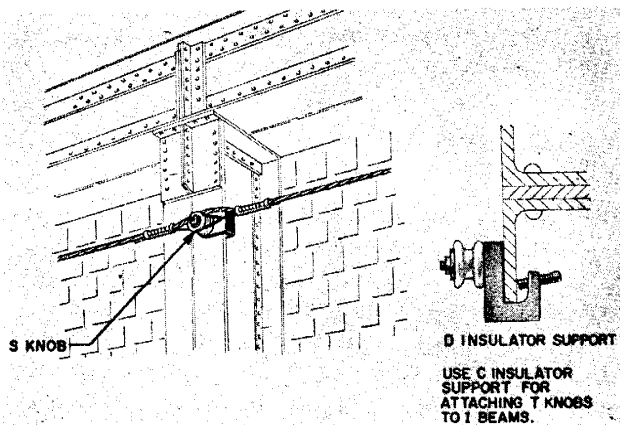

Fig. 11 – D Insulator Support and S Knob
- D insulator support (Fig. 11) will accommodate S knobs or B or M bridle rings. It can be attached to steel structures up to $\frac{3}{4}$ inch in thickness.